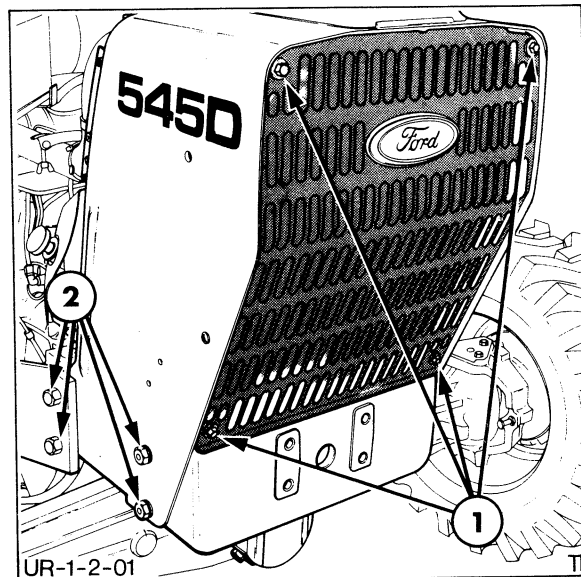

FIGURE 1-75
9. Loosen the radiator shell support bolts, Figure 1-75.